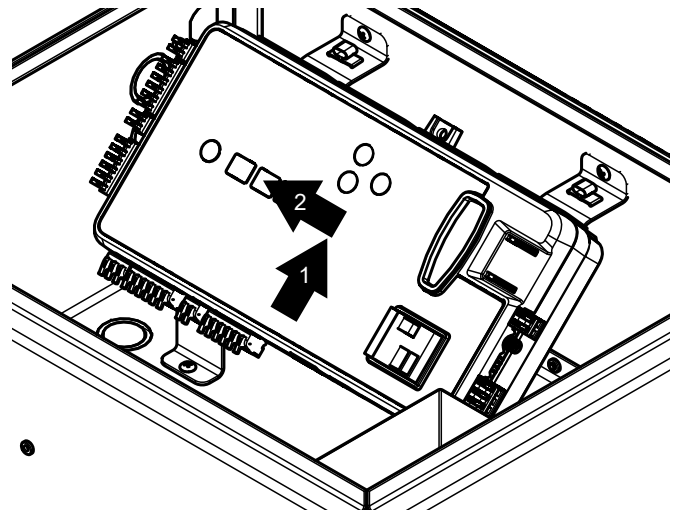
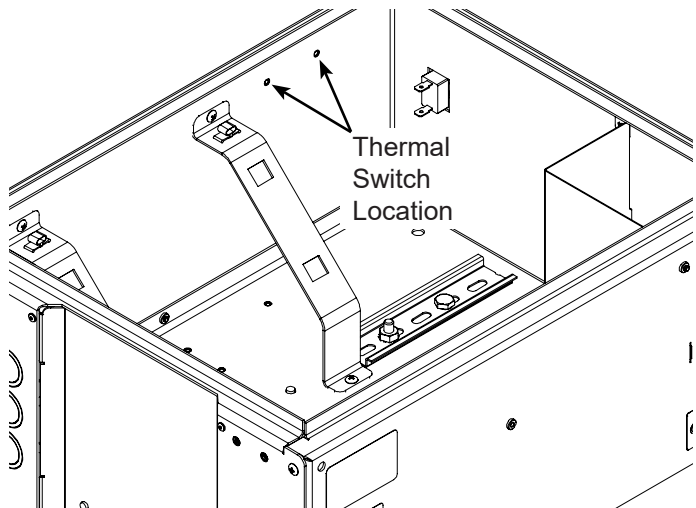

Figure 3. Remove SmartTouch 720/725 Controller
Figure 4. Install Thermal Switch
5. Install the thermal switch and fasten with two 6-32 x ¼ in machine screws (Figure 3 and Figure 4).